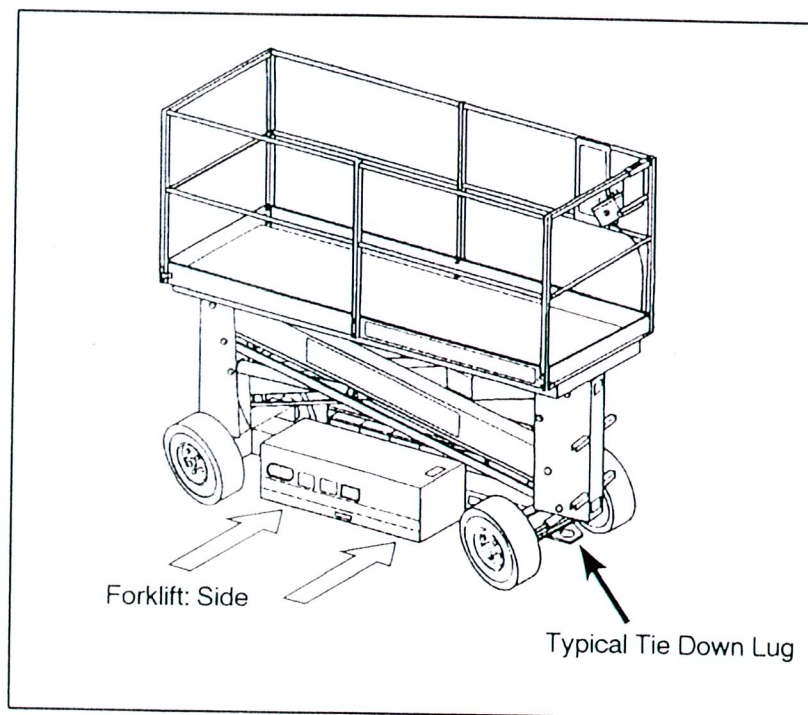

Figure 6: Transporting Work Platform
Forklift from the side by lifting under Chassis Modules (Figure 6).
2. Secure the work platform to the transport vehicle with chains or straps of adequate load capacity attached to the chassis tie down lugs (Figure 6).